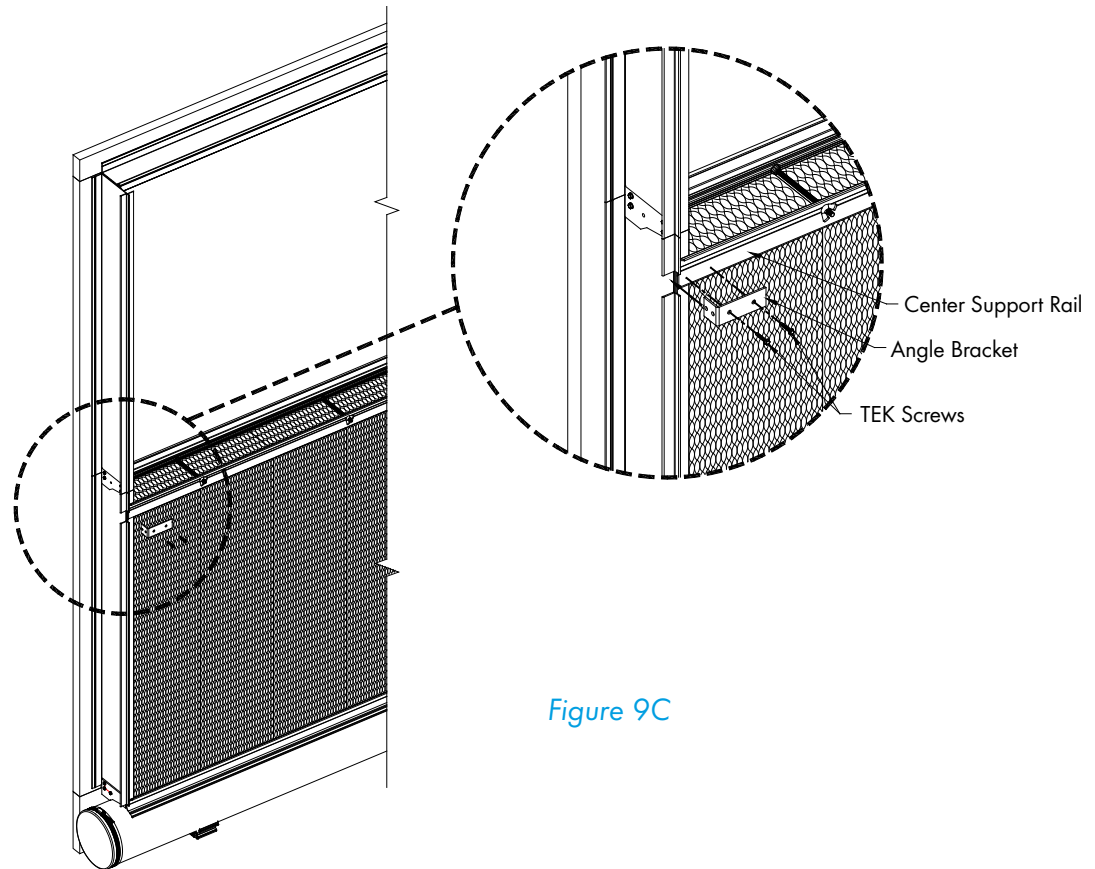

Figure 9C
Holding the left End Panels tight to front Center Support Rail, place the long side of Angle Bracket on Center Support Rail and the short side over End Panel. See Figure 9C. Attach Angle Bracket to Center Support Rail using (2) #10 1¼" TEK Screws (provided). Repeat for Right End Panels.